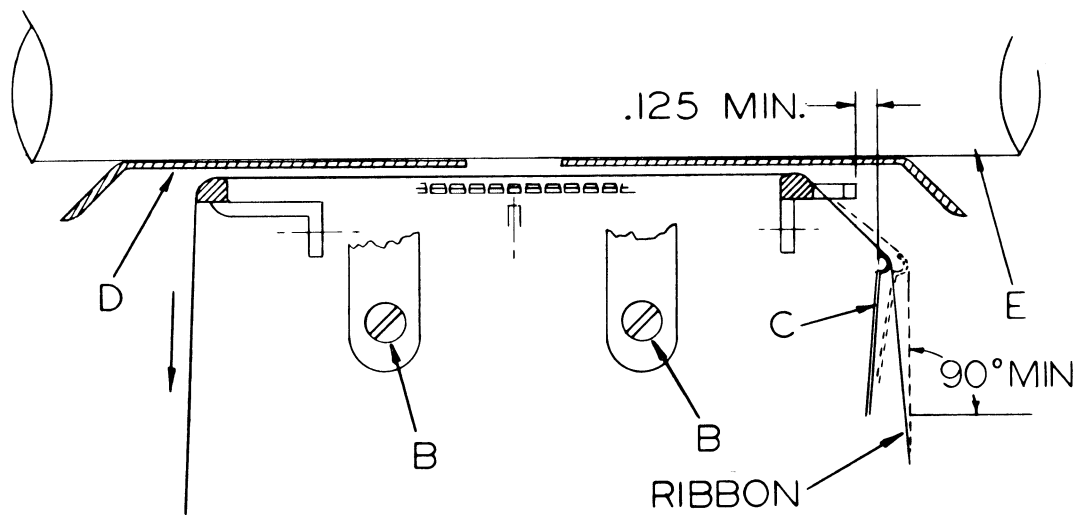
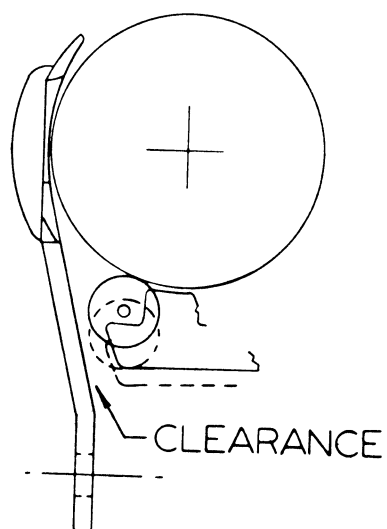

FIGURE 7-12
FIGURE 7-13
The card guide depth adjustment establishes the proper operating clearance between the plastic card guide and the surface of the platen. Take care in adjusting the depth to be certain that there is no interference between the card guide and the stationary paper feed rollers (Figure 7-13).
- (1) Remove power from the printer. Place the forms thickness selector lever in its extreme forward position. Remove ribbon cartridge and printwheel.
- (2) Refer to Figure 7-12. Loosen the two screws (B) that secure the card guide's support stanchions.
- (3) Move the card guide toward the platen, so that it is parallel to the platen's working surface, until the guide just grazes the platen or even contacts the platen under a very slight preload.
- (4) Re-tighten the two screws that were loosened in Step #2 above, to secure this adjustment.
- (5) Move the forms thickness selector lever to the rear. The tension of the card guide against the platen surface should not be so great that the card guide follows the platen to the rear.
- (6) Move the carriage assembly by hand throughout the full range of its travel, and ensure that the card guide slides freely over the platen's working surface. At the same time, observe that there is adequate clearance between the guide and the forward paper feed rollers, as shown in Figure 7-13, when the paper release lever is in its extreme forward position (released). If necessary, repeat Steps #2 through #5. This completes the adjustment.